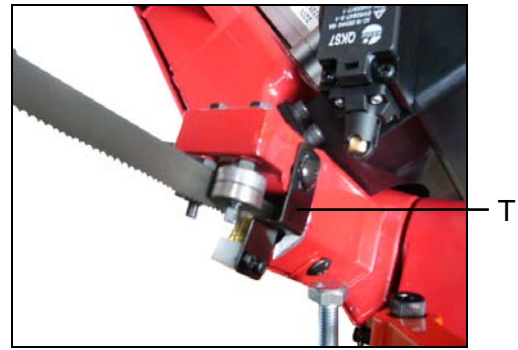

Fig. 17
- Remove the brush T in Fig.17